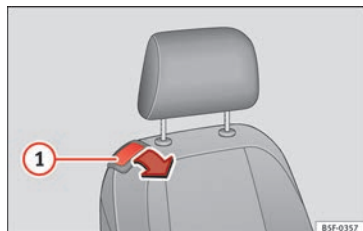

Fig. 108 Front passenger seat: lever for folding down the backrest.
- Pull lever ① » **Fig. 108** and push the seat backrest until the backrest is horizontal.